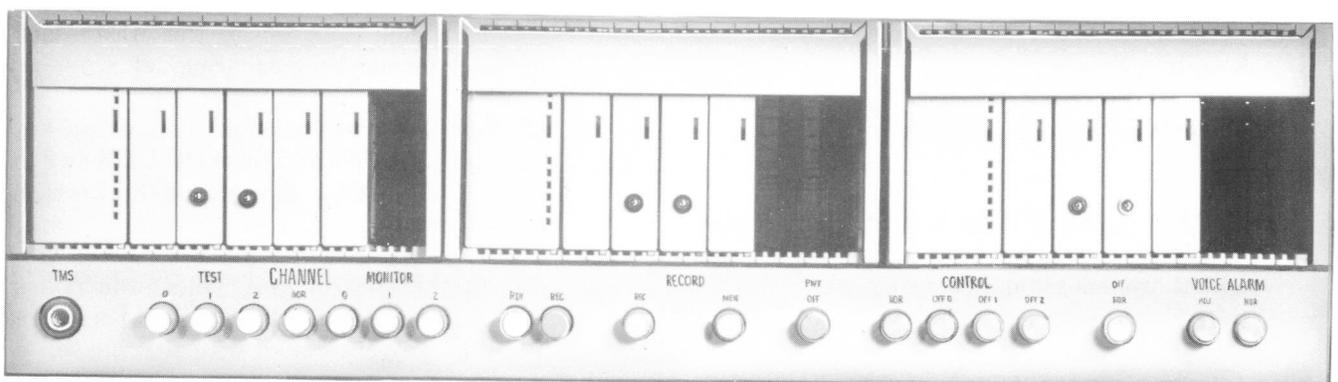

Fig. 11—Variable Message Length Channel Module and Control Unit
- (1) Monitor the message on the channel for verification of known good recording.
- (2) Operate the CONTROL OFF_ key associated with channel under test.
- (3) Remove the switching alarm circuit pack (A1020 circuit pack) from the channel under test.
- (4) Operate the CONTROL NOR key on the control panel. Reset the memory in accordance with Section 201-520-301.
- (5) Operate the VOICE ALARM ADJ key on the control unit (Fig. 11).
- (6) After 3-5 cycles through the complete message, the lamp on the alarm logic circuit (A1014 circuit pack) shall light for approximately 1 second at the end of the message.
- (7) If requirement is met or after making the adjustments, operate the CONTROL OFF₁ key associated with channel under test.
- (8) Remount the switching alarm circuit pack (A1020 circuit pack) into the channel module.
- (9) Operate the CONTROL NOR key on the control unit. Reset the memory in accordance with Section 201-520-301.
- (10) Operate the VOICE ALARM NOR key on the control unit.
- (1) Using the W1 patch cord, connect the TMS jack (Fig. 11) to the MEAS jack of the transmission measuring set.
- (2) Set the transmission measuring set INPUT to 600 and the ADD DBM switch to the level closest to the nominal transmission level desired.
- (3) At the control panel, operate the CHANNEL MONITOR key of the channel to be measured.
- (4) Note the output indication on the transmission measuring set. The transmission level is equal to the average level on the meter plus the setting on the ADD DBM switch.
- (5) If requirements are met or after making adjustment, operate the CHANNEL NOR key and remove the patch cord from the TMS jack and from the transmission measuring set.
- (8) Observe the oscilloscope display.
- (9) If requirement is met or after making the adjustments, operate the CONTROL OFF_ key (Fig. 11) associated with the channel under test.
- (10) Disconnect the oscilloscope leads, remove the extender card, and remount the A1020 circuit pack in the channel module.
- (11) Operate the CONTROL NOR key on the control unit. Reset the memory in accordance with Section 201-520-301.
- (12) Monitor to verify valid memory reset.